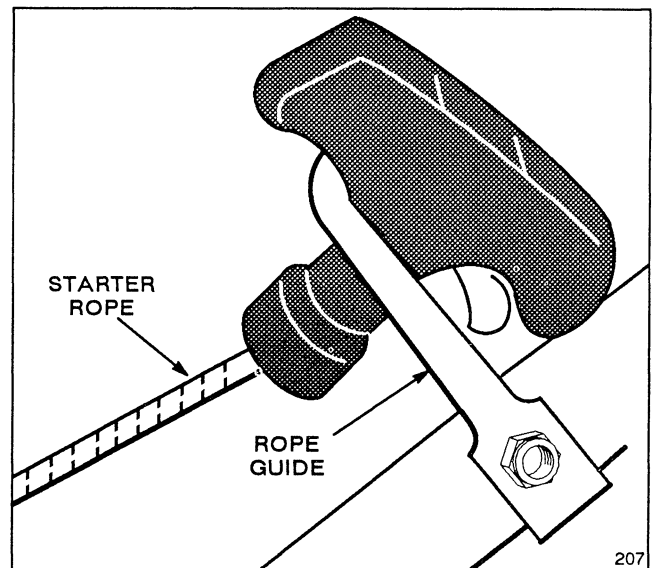
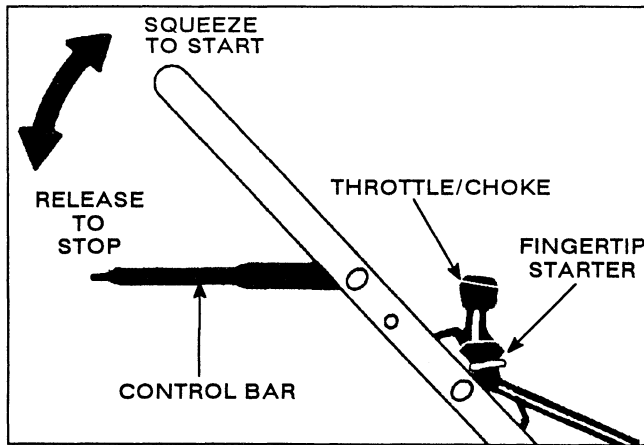
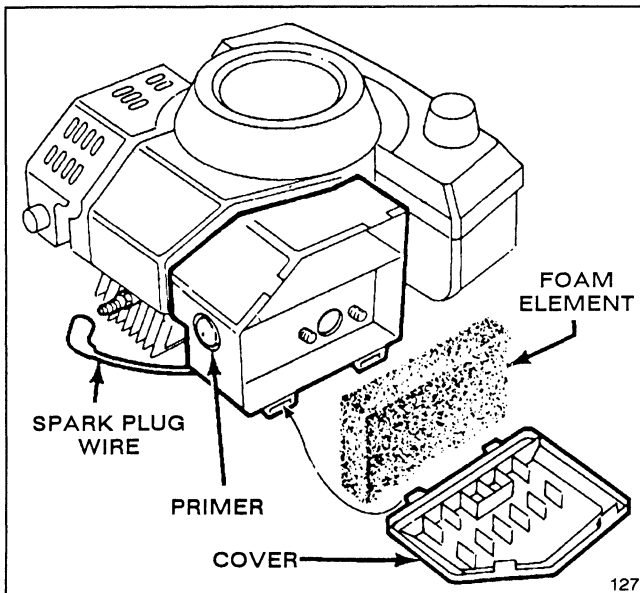
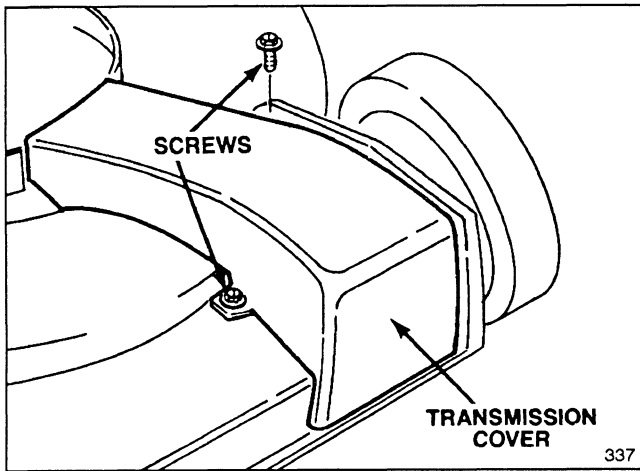

Figure 3
Figure 5
Figure 9
Figure 15
3. STARTER ROPE (Fig. 3)—By squeezing control bar (Fig. 5) against handle, blade brake will release and allow rope to be pulled easily up through rope guide. Pull starter rope through opening in rope guide.
1. CONTROLS (Fig. 5 & 6)—Wheel drive control (self-propelled model only), throttle/choke, control bar, and fingertip starter are on upper handle.
2. STARTING (Fig. 5 & 6)—Push spark plug wire onto spark plug (Fig. 9). Move wheel drive control to DISENGAGE (model 16785 only) and throttle to CHOKE. Cover hole in center of primer with thumb and push once (Fig. 9). Hold control bar against handle. Pull fingertip starter out until positive engagement results; then pull vigorously to start the engine. Regulate throttle as desired when engine starts.
4. STOPPING (Fig. 5 & 6)—Release control bar to stop engine and blade. Pull wire off spark plug if mower will be unattended or not used.
1. Stop the engine and pull the wire off the spark plug (Fig. 9).
SERVICING AIR CLEANER (Fig. 9)
1. Stop engine and pull wire off spark plug (Fig. 9).
2. Clean around spark plug and remove plug from cylinder head (Fig. 9).
1. Stop engine and pull wire off spark plug (Fig. 9). Remove two screws and lift off transmission cover (Fig. 15).
2. Remove transmission cover (Fig. 15).